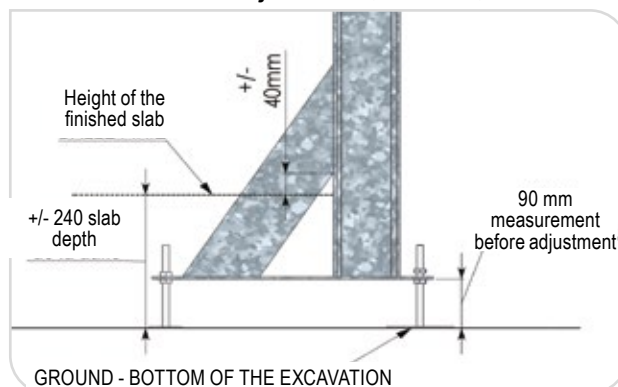
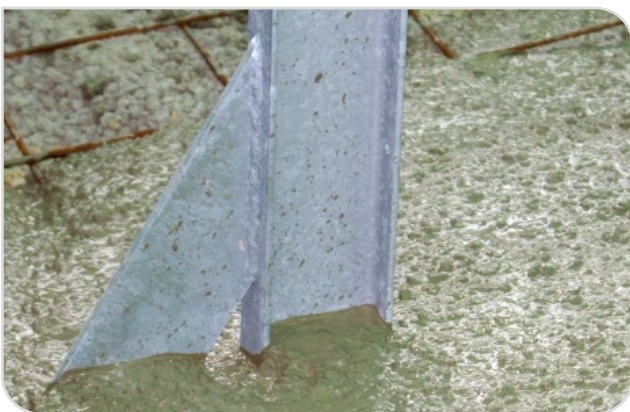

Figure 7 – Detail of the jack
Figure 11 – Detail of the metallic posts
At the bottom corners, these flat bars are joined together by an AR type jack (Detail Figure 7)
- ! See *Figure 7* and *Figure 11* to determine the correct height of the concrete slab with respect to the posts.